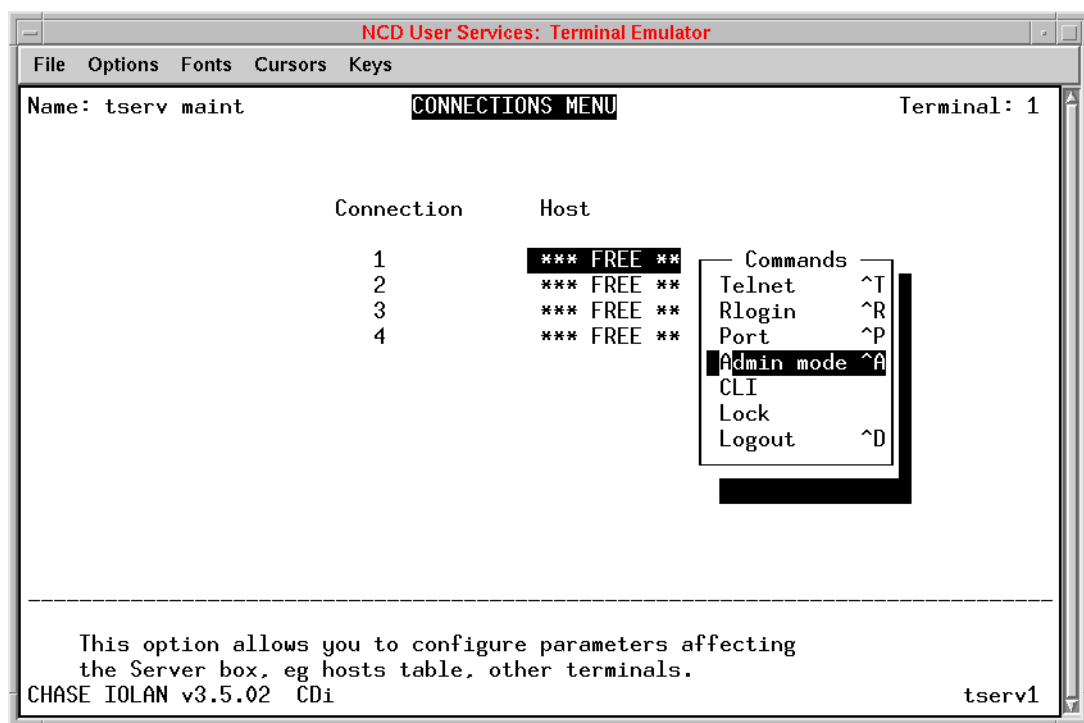

Figure 2-11: Terminal Server Connections
22. Select **Admin Mode** from the Commands Pop-up menu (see Figure 2-11).
The Connections menu appears (see Figure 2-11).